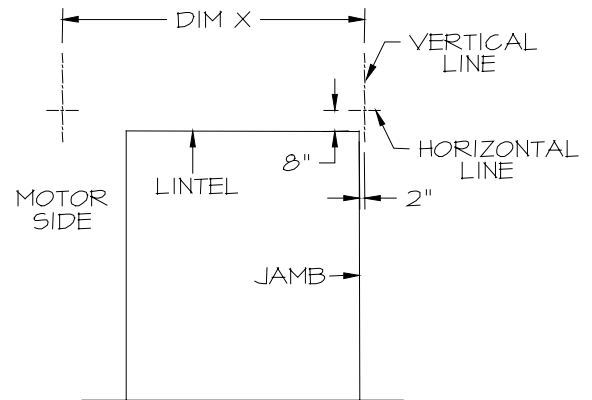

FIG. 8
- * From corner of jamb, **measure 2"** to the side of the door (Figure 8).
- * From corner of jamb, **measure 8"** up above lintel (Figure 8).
- * Using Dimension X, **measure** from the intersection of the horizontal and Vertical Lines on the non-Motor side across to the Motor side of door opening (Figure 8).